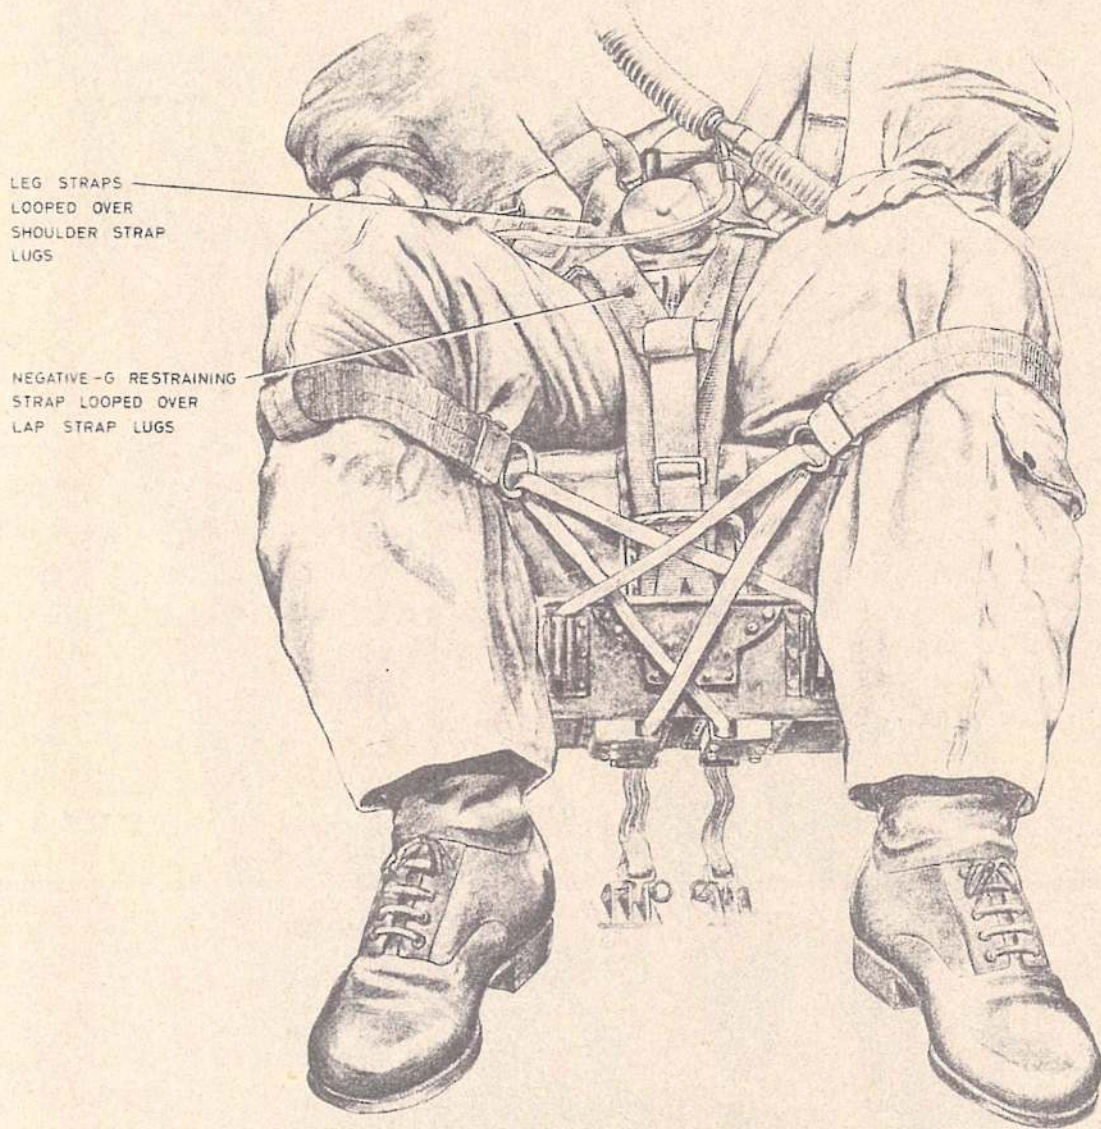

Fig. 14. Assembly of leg restraint cords and harness (Pupil and Instructor)
- (17) Connect the Mic/Tel lead.
- (18) Check that the cap on the static line disconnect and barostat override control is in place. If the cap has been removed, try to replace it; if it cannot be refitted, the parachute assembly will not operate automatically and is to be replaced.
- (19) Adjust the height of the seat. Ideally, the head is to be located in the centre of the headrest cushion.
- (20) Reach upwards and check that the firing handle is within easy reach; DO NOT PULL.
- (21) Ensure that the chin straps of both helmets are fastened, fit the oxygen mask and perform pre-flight oxygen checks.
- (22) Remove the safety pin from the firing handle safety lock and place it in its stowage.
45. The pupil (occupying the port seat in the cockpit) straps in after the navigator. Adopt the following procedure and refer to fig. 14, 15 and 16 for detail as necessary:—
- (1) Ensure that both seats have been made safe for parking in accordance with current instructions.
- (2) Unlock the instructor's seat from the forward position and swing it rearward to give the maximum access to the pupil's seat.
- (3) Sit in the seat.
- (4) Thread the leg restraint cords through the quick-release couplings on the garters as follows. Thread the cord from the starboard snubbing unit (under the seat pan) through the garter coupling of the left leg and plug the end-fitting of the cord into the starboard taper socket (on the front of the seat pan).
- (5) Thread the port cord through the right garter and back to the port taper socket, thus crossing the cords. It does not matter which loop is in front, but do not interlace them (fig. 14).
- (6) If there is insufficient length of cord, pull forwards on the ring in front of the snubbing unit to release more cord. Pull back any excess of restraint cord
- (7) Connect the personal survival pack lanyard to the life jacket quick-release coupling on the right so that the lanyard lies across the right thigh.
- (8) Connect the side quick-release couplings of the personal survival pack to the two corresponding fittings on the life jacket.
- (9) Bring the harness waistbelt across the body. Adjust the quick-release fitting so that it lies central with the waistbelt close to the body.
- (10) Pass the right-hand lap strap lug through the loop in the right-hand arm of the negative-G restraining strap Y-piece. Clip the lug into the quick-release fitting.
- (11) Pass the left-hand lap strap lug through the loop in the left arm of the negative-G restraining strap Y-piece. Clip the lug into the quick-release fitting.
- (12) When correctly assembled the two loops of the negative-G restraining strap Y-piece cover the lap strap lugs on each side of the quick-release fitting. Tension the negative-G restraining strap and tighten the lap straps; it is most important that these are really tight since they provide the principal restraint under all stress conditions (*fig. 14*).
- (13) Bring the leg loops up between the legs and thread the left loop through the metal eye on the left lap strap; pass the right loop through the metal eye on the right lap strap. If twisted correctly the leg loops will lie flat on the inside of the thighs.
- (14) Remove the ends of the shoulder straps from the stowed position and arrange them under the life jacket stole. Thread the end fittings through the leg loops and connect them to the quick-release fitting. The harness leg loops are to engage on the metal end